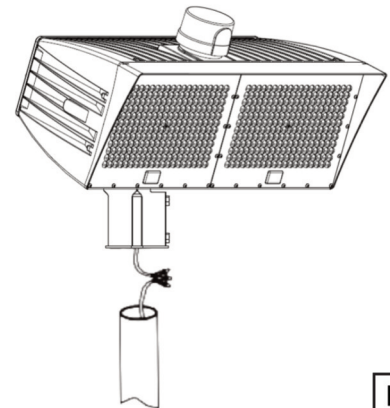

Fig. 7
- 1.) Connect the power leads properly, make wiring connections (according to the wiring diagram) and lay the wires in the pole. Once connections are made, insert the slipfitter onto the pole (see Fig. 7).